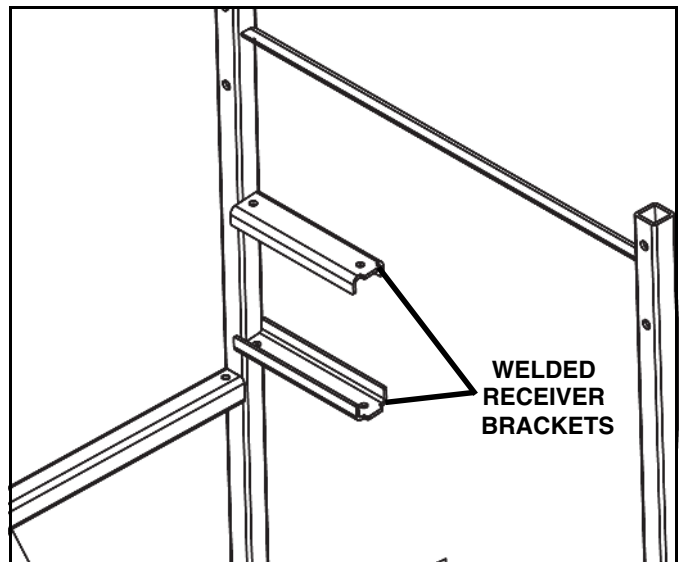

Figure 1-3
1. Skip steps 2 and 3 if your spreader has welded receiver brackets to hold the receiver (See Figure 1-3). The receiver bracket from the control box can be discarded.